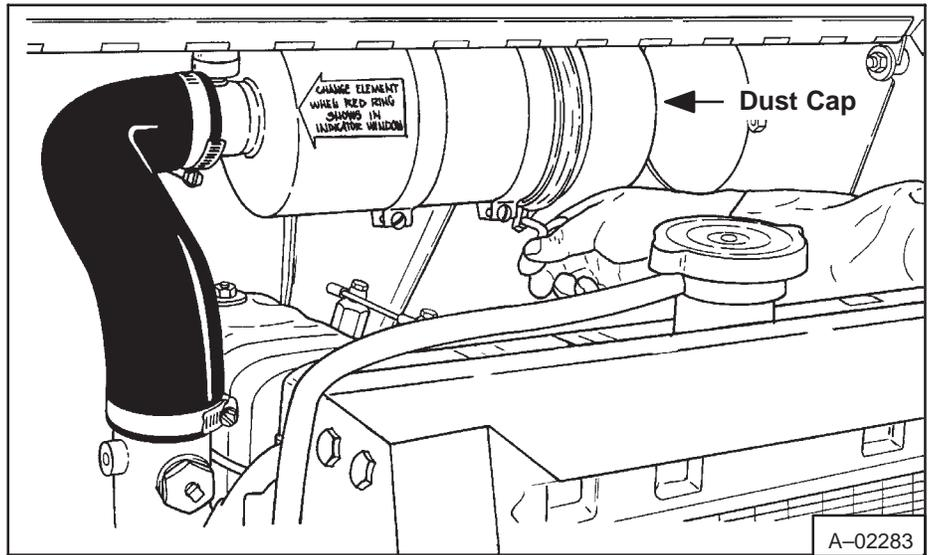

Fig. 1-13 Removing Dust Cap
1. Empty dust cap daily or as necessary to keep it from becoming full (Fig. 1-13). Install dust cap with arrows up.